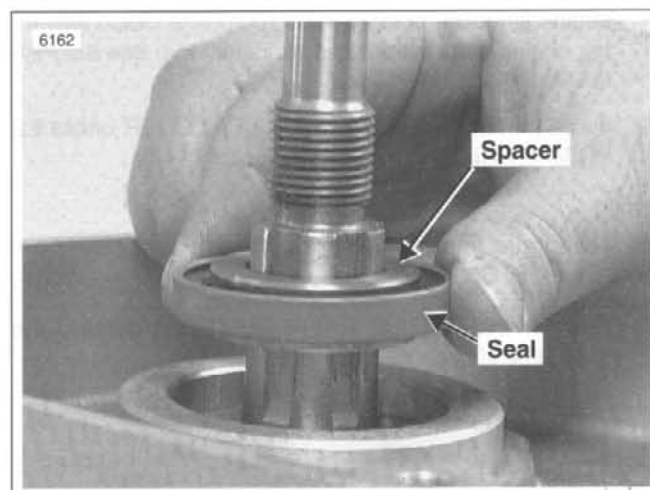

Figure 3-144. Install Spacer in Seal
10. See Figure 3-144. Install **new** spacer in seal ID. With the open (lipped) side facing outward, center seal/spacer assembly over bearing bore.